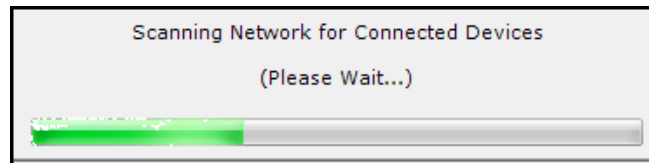
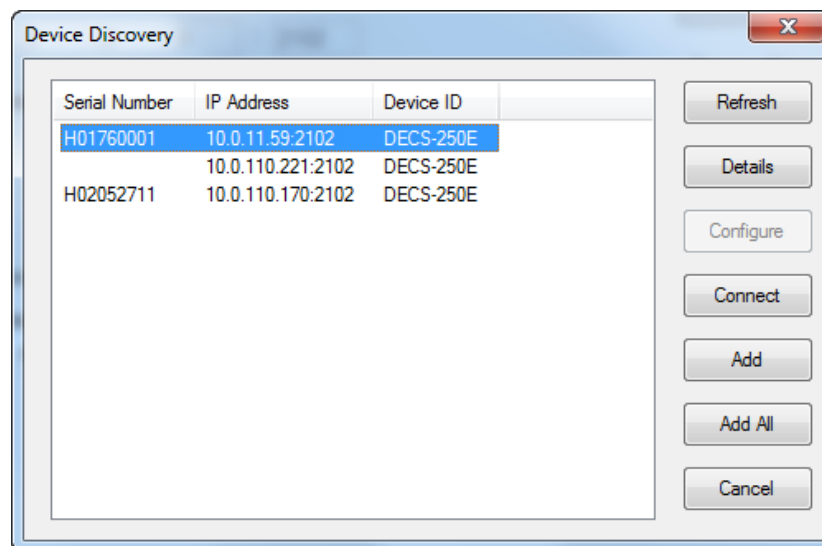

Figure 21-8. Scanning for Connected Devices
Figure 21-9. Device Discovery Window
4. If you don't know the IP address, you can perform a scan (Figure 21-8) to search for all connected devices by clicking the *Ethernet* button in the Device Discovery box. After the scan is complete, a window containing the connected devices will be displayed. (Figure 21-9)
6. Choose the desired device from the list and click *Connect*. Wait for connection to complete (Figure 21-9).